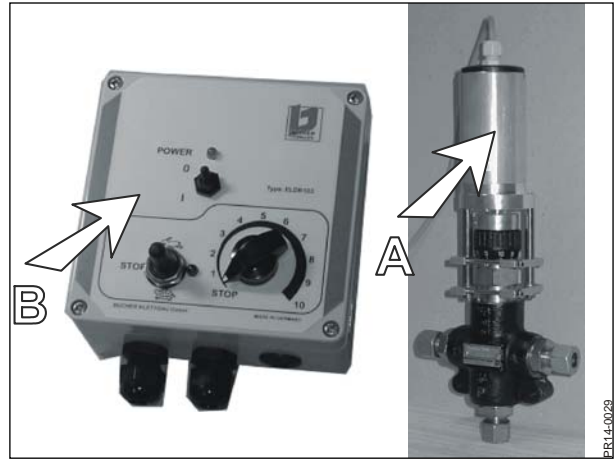

Fig. 5.2
Fig. 5.2 If the speed of the conveyor chain is to be adjusted from the tractor seat we can offer you an electric adjustment of the conveyor chain (see the spare parts list regarding ordering No.). This set consists of a step motor (A), which is mounted on top of the existing valve and an electric control box (B).